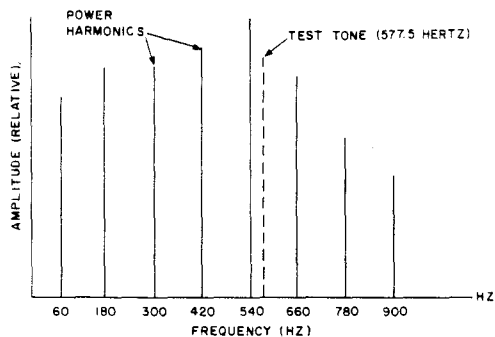

Fig. 1—Signal as Heard Without a Filter
3.03 Figure 1 illustrates frequency components that can be present on conductors in a cable that is located in an area where the influence of power lines is a problem. These power line frequency components are shown as solid lines. The precision tone is superimposed on this illustration as a dash line.